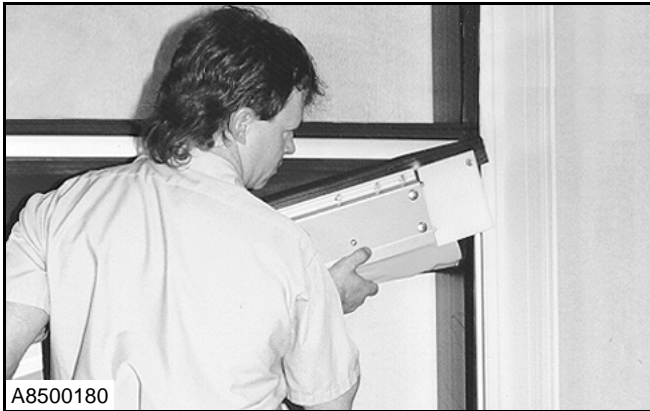

Figure 43
1. Position the breakaway tabs on one end of the bottom bar assembly in the side column channel. Lift the other end of the bottom bar and position the breakaway tabs in the channel of the opposite side column. (See Figure 43.)